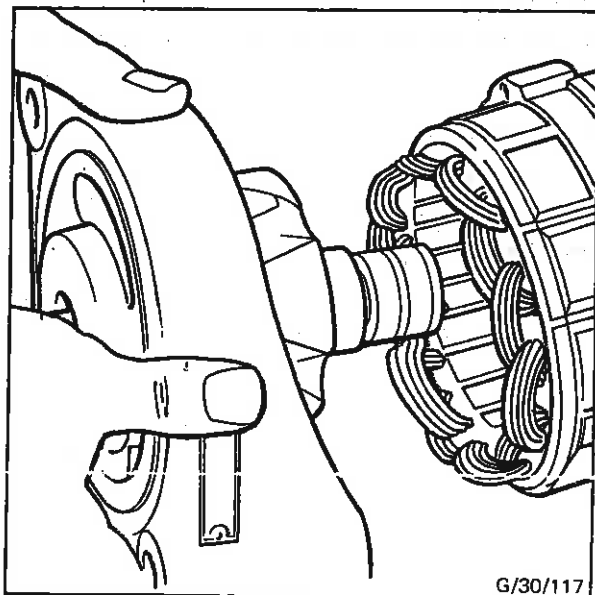

Fig. 78 - Assembling Rotor and Stator
7. Support the rotor and drive end shield assembly as shown in Fig. 78 and pass the rotor through the stator so that the slip ring end bearing enters the bearing housing in the slip ring end shield. Great care must be taken not to damage the slip rings during this operation.